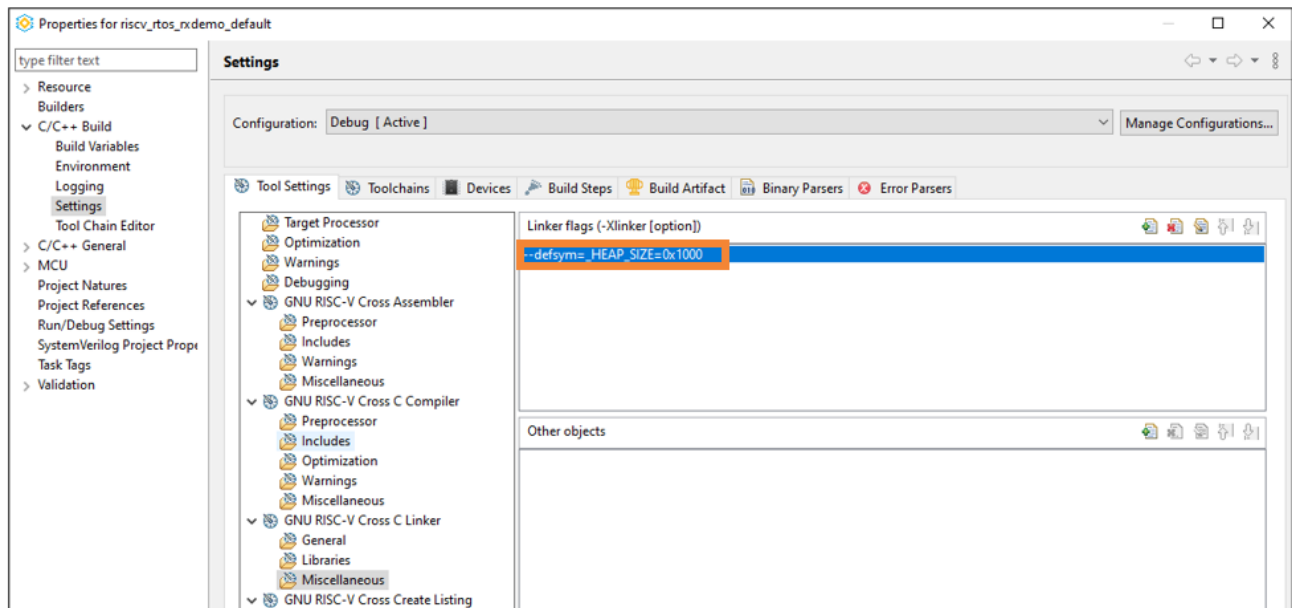

Figure 5.28. --defsym=_HEAP_SIZE=0x1000 Linker Flag
6. Select **GNU RISC-V Cross C Linker > Miscellaneous**. Add the linker flag, `--defsym=_HEAP_SIZE=0x1000` (Figure 5.28). **Note:** `0x1000` is a suggested value, and it can be changed to a proper value if necessary.